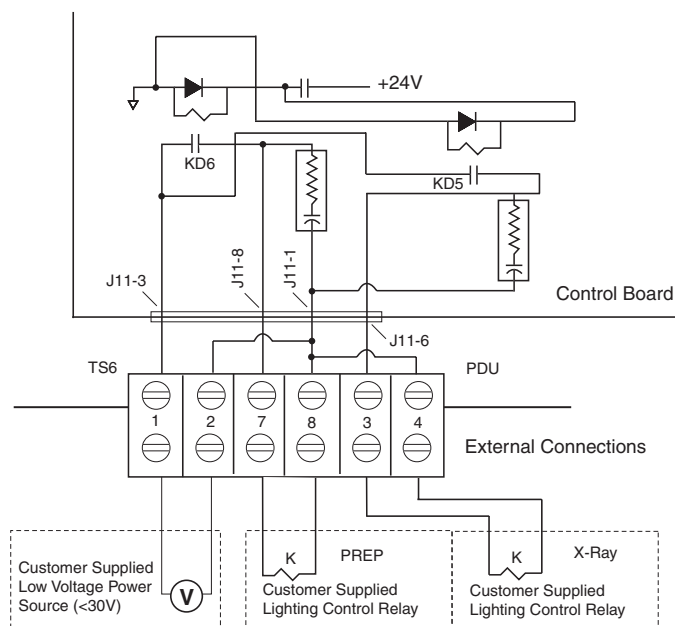

Figure 2-46 External X-ray Light Connection
- 2.) This step is site-specific. By default, the PDU is configured for “no” external X-ray light connection. If you have an external X-ray light, see Figure 2-46 for proper connection.
It is recommended that you use the four (4) wire method for adding an X-ray warning light to a room, as shown in Figure 2-46. When using this method, you: